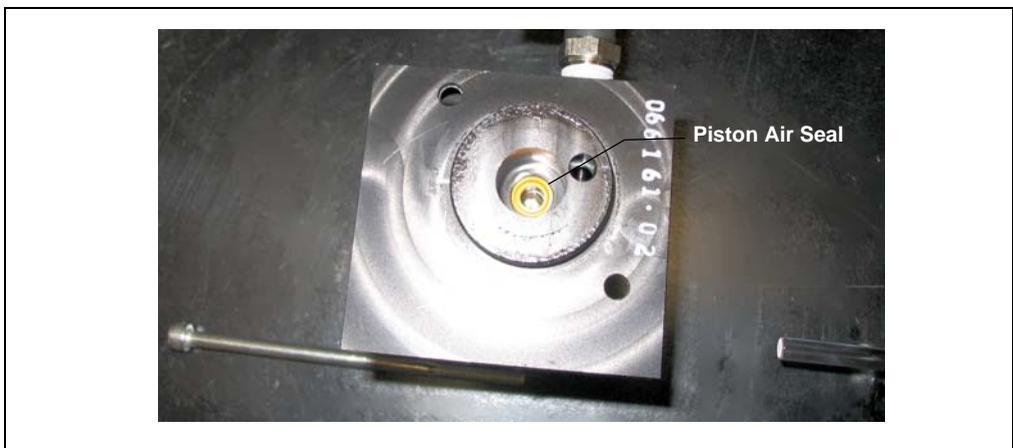

Figure 5-14. Removing the Piston Air Seal
5. To remove the piston air seal from the left end plate (see Figure 5-14), insert the wooden end of a cotton-tipped swab and pry out the seal. Discard the seal.